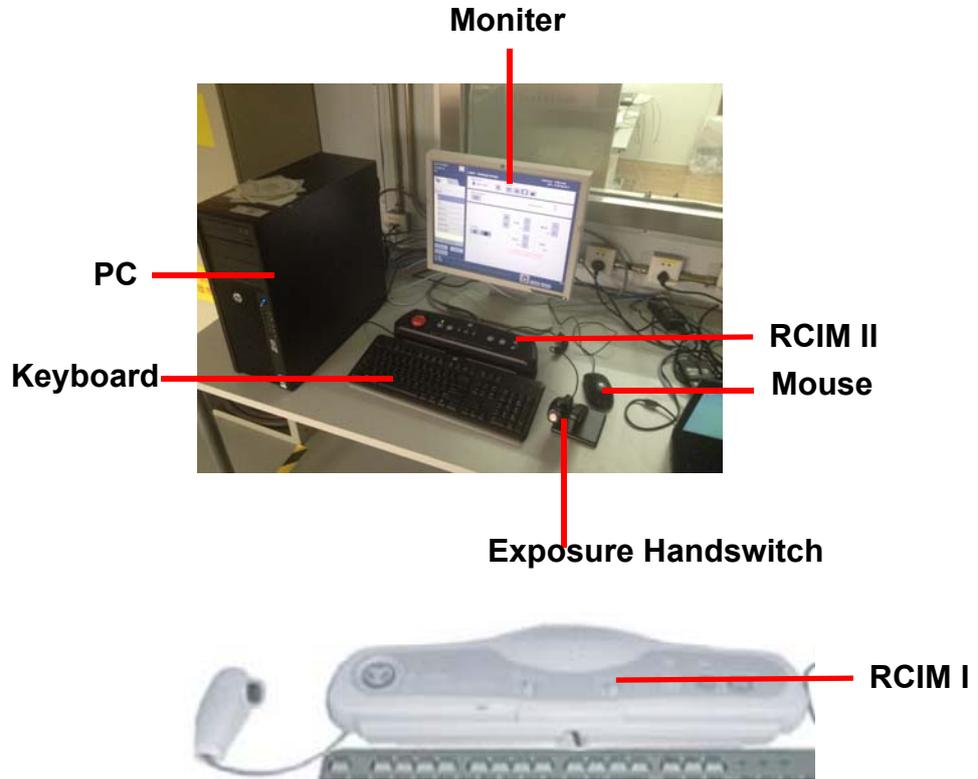
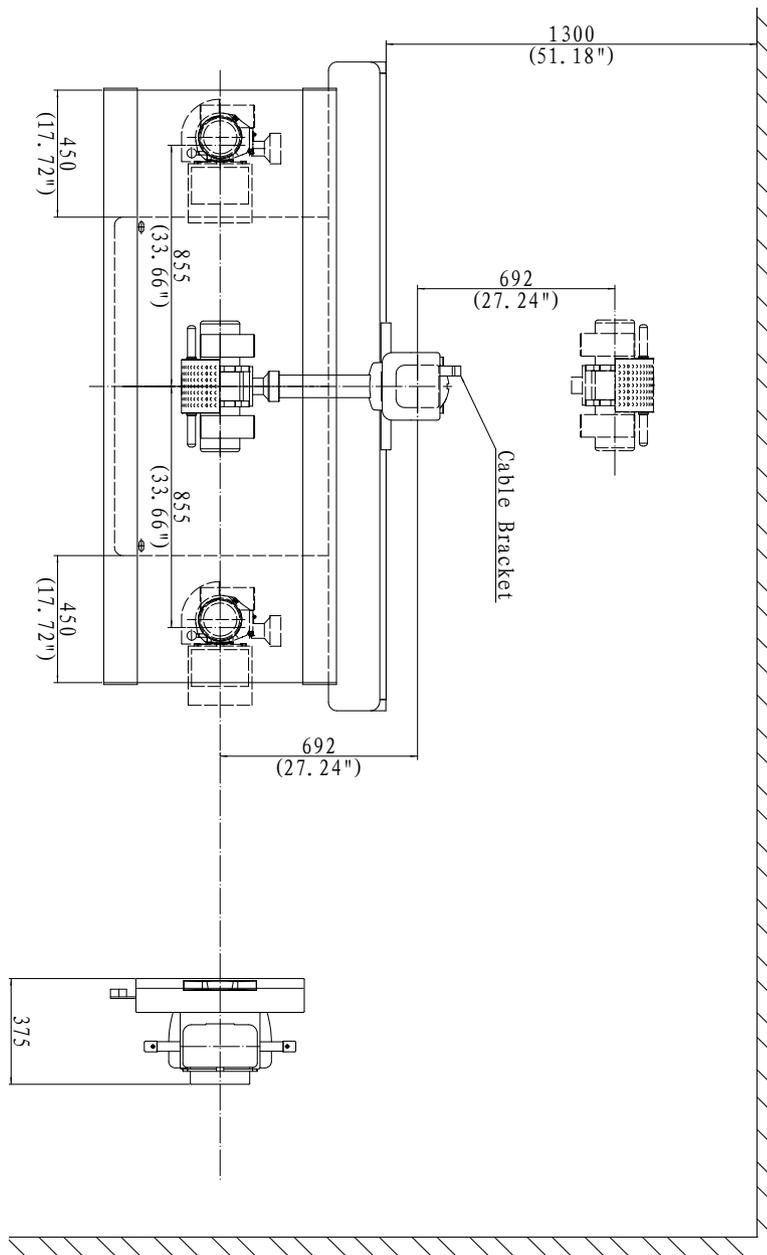
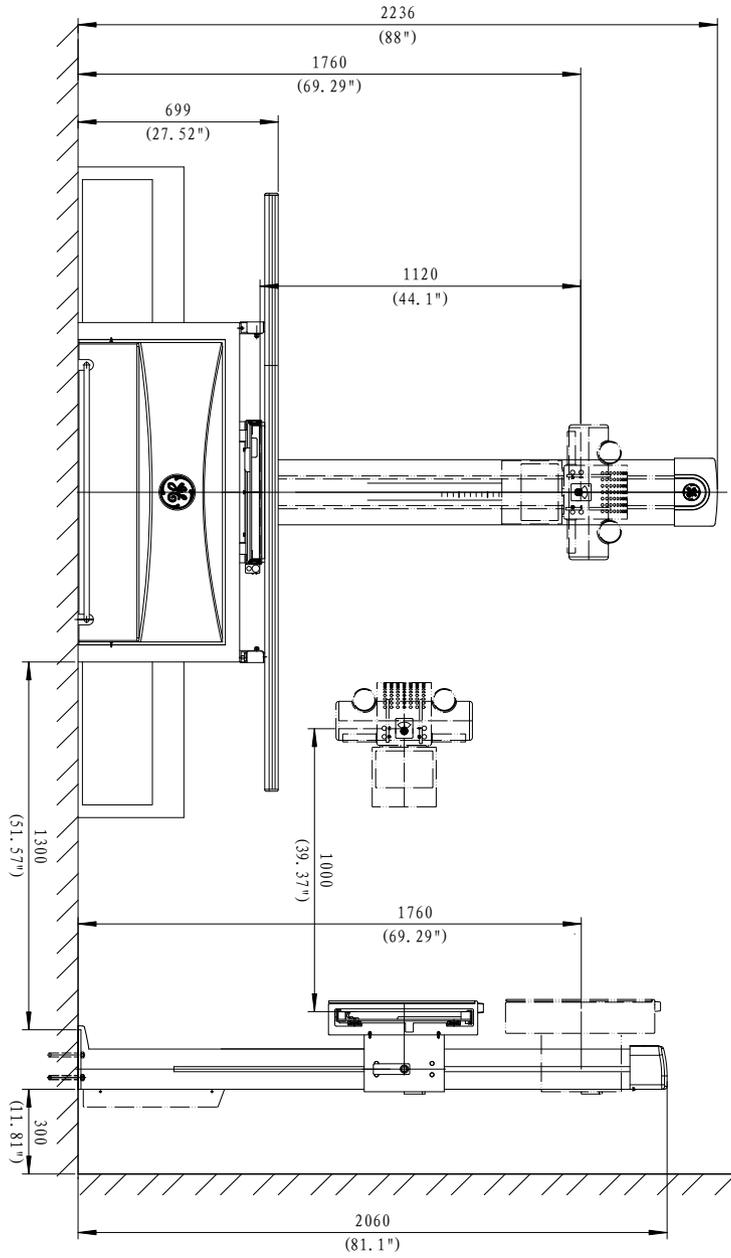

Figure 6-1 Control Room collector
Figure 6-2 System Views
Figure 6-3 System Views (Front View)
- System - Figure 6-2 through Figure 6-3
- Operator Console - Figure 6-1 through Figure 6-3.